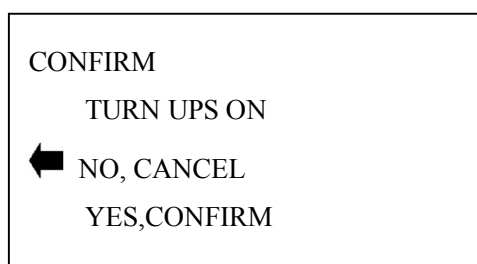

Fig.9.4
6. Press “↵” and choose “ON”. Confirm according to the LCD prompt message (Fig.9.4)
6. Press “↵” and choose “ON”. Confirm according to the LCD prompt message (Fig.9.4) .